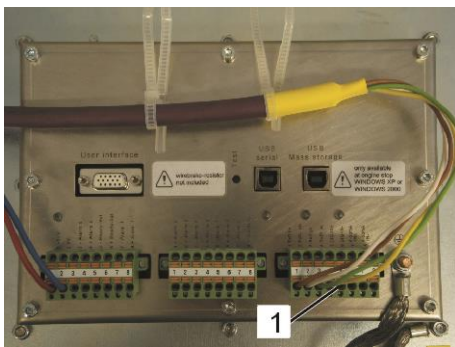

Fig. 106: Indication unit
1. Check the connection of the bus cables (Fig.106/1) from X13/1 to X13/4 on the back of the Indication unit.